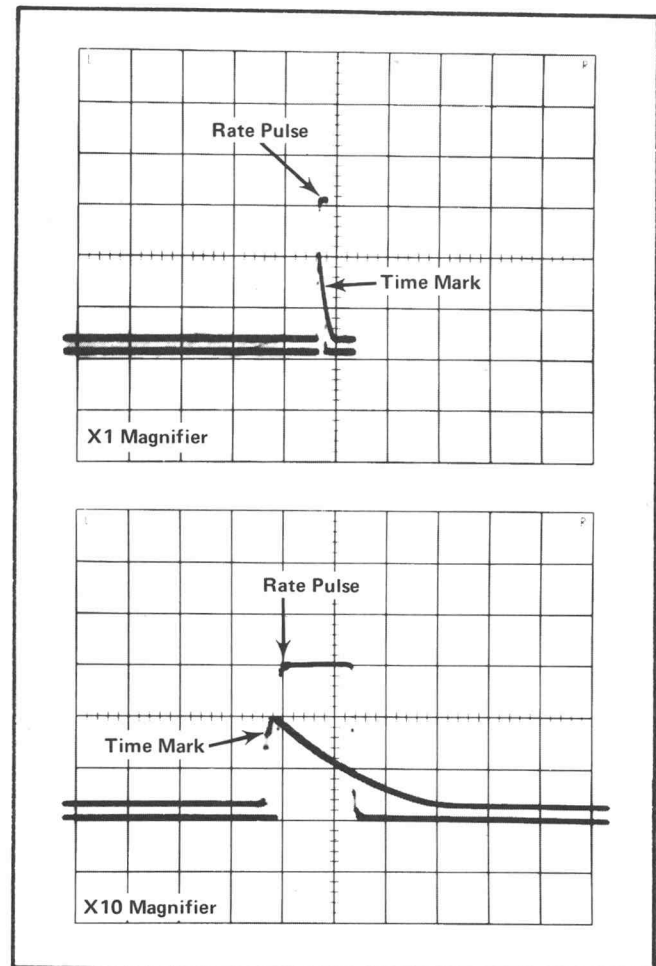

Fig. 5-4. Typical display of Rate Generator Accuracy Check, step 17.
- Connect 26G1 RATE (F) and Gnd to Dual Trace Amplifier CH 2 Input.
- Display RATE Pulse and Markers as shown in Fig. 5-4.